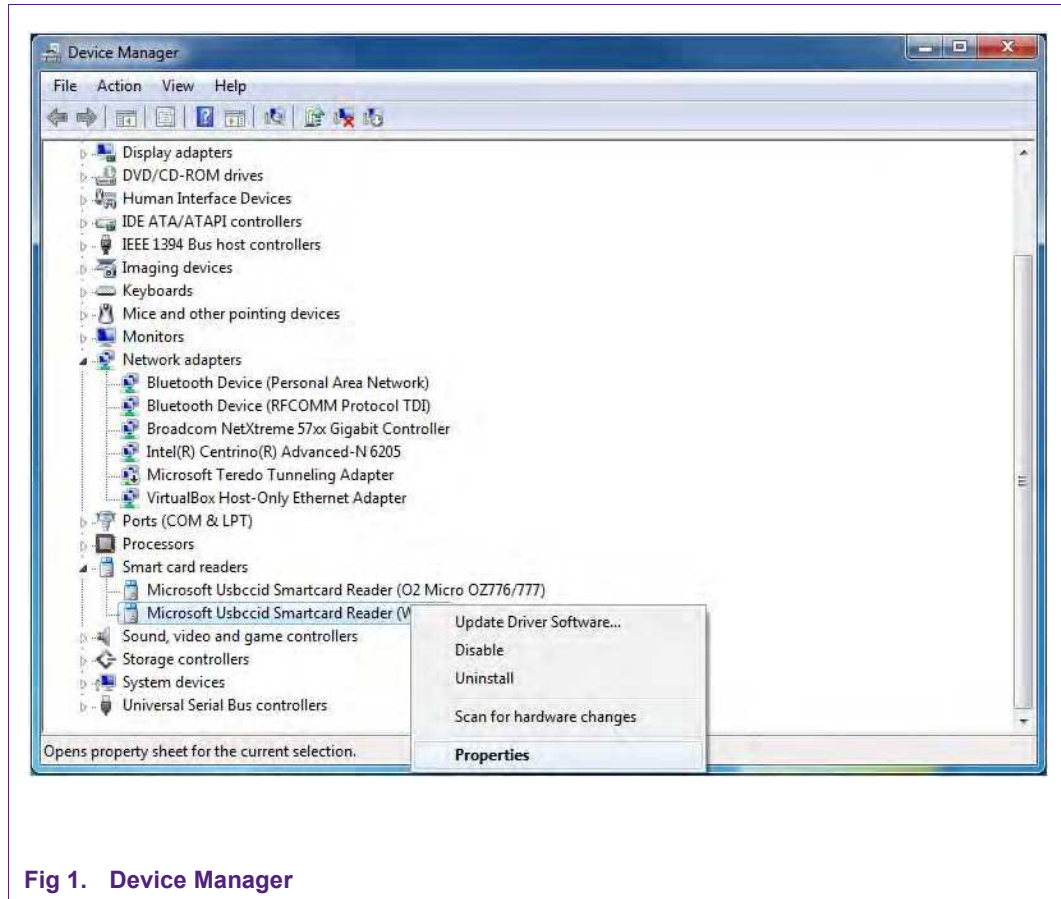

Fig 1. Device Manager
- 7) Open the Windows Device Manager and navigate to the installed Reader (see figure 1 below)
You can find a photo with description on NXP web (see [40]) (table and figure 1)